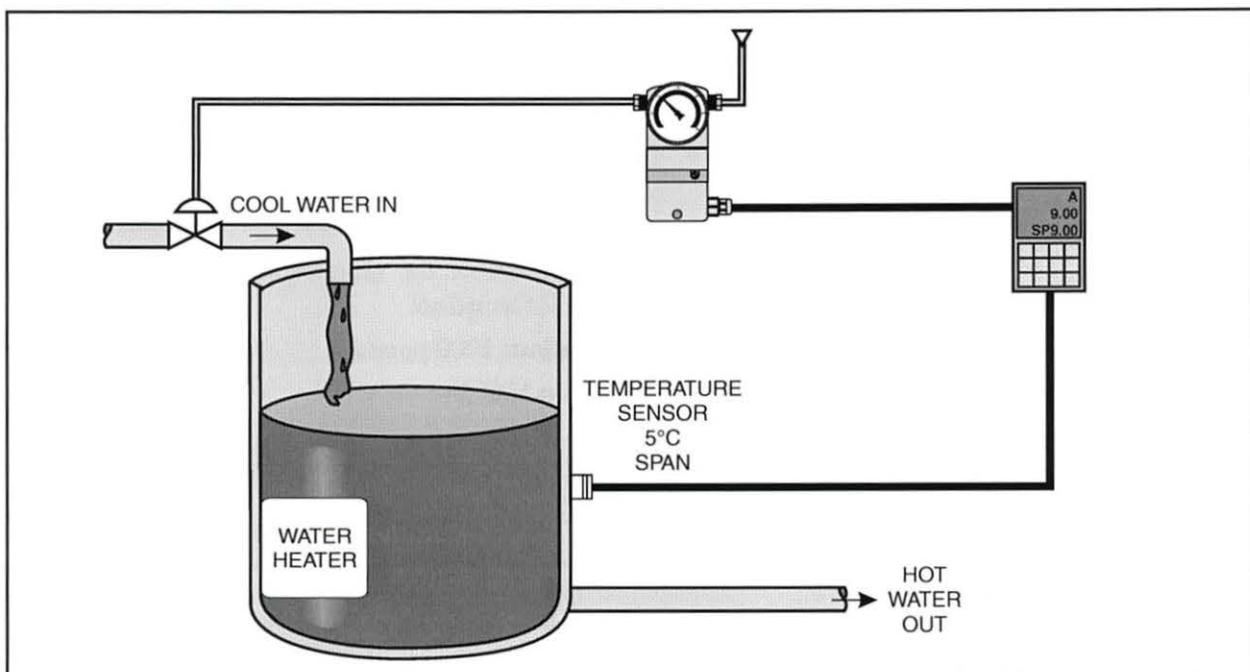

Figure 5. Temperature Sensor with a Span of  $5^{\circ} C$  and a Resolution of 5 Points
**Example** - Determine the resolution of the temperature sensor in figure 5 given the following information: